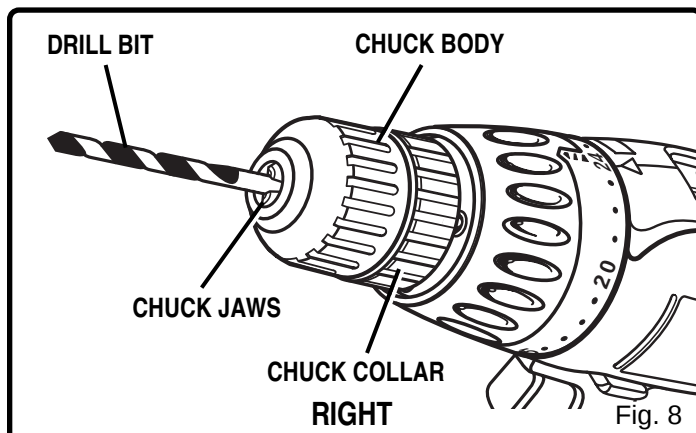

Fig. 8
- Insert your drill bit into the chuck the full length of the jaws. See *Figure 8*.
See *Figure 8*.